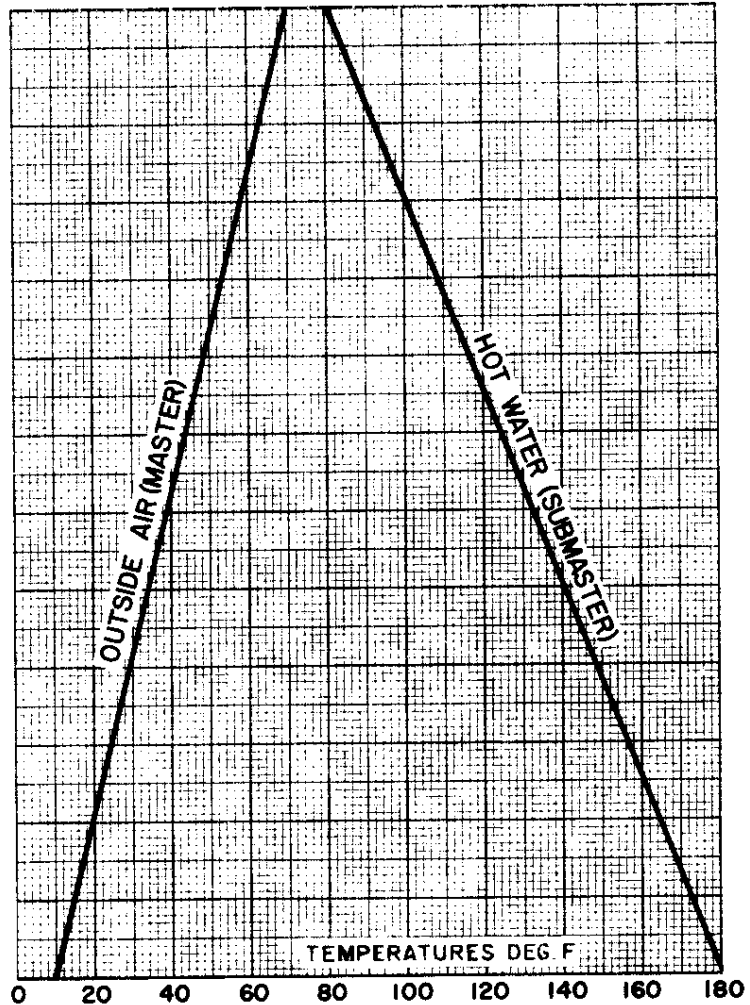

Fig. 4: Typical Reset Schedule
1. From the control drawing and reset schedule (Form 561), determine the minimum and maximum values of the master "M" and controlled variable "CV" transmitters. An example of a typical reset schedule is illustrated in Fig. 4.